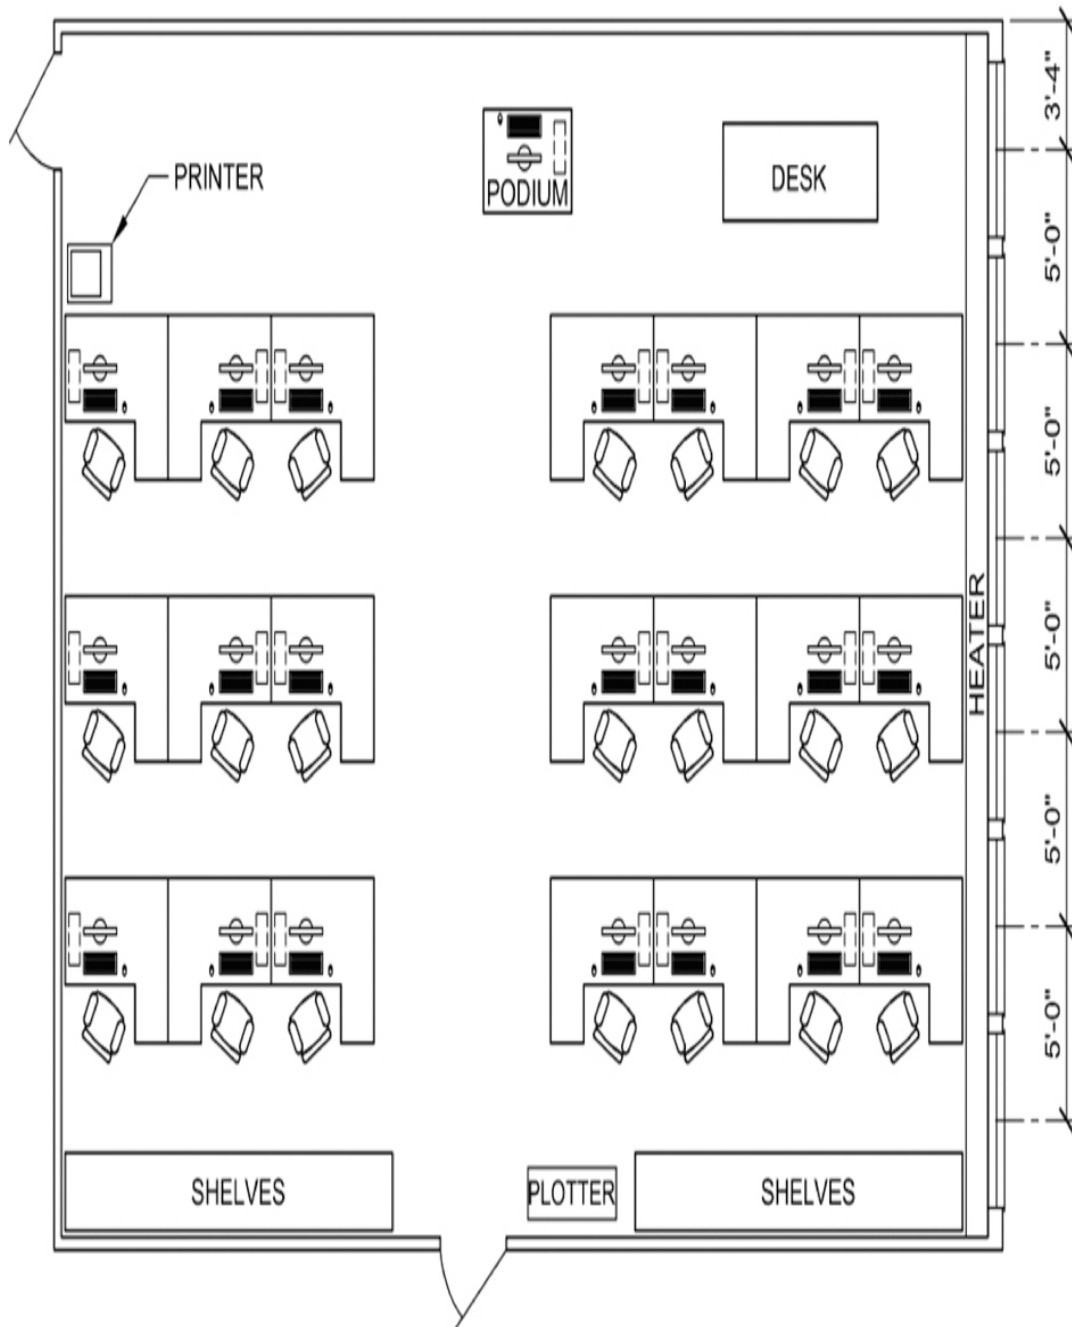

Figure 8-43
3. Locate the windows as shown in Figure 8-43. Trim the walls as necessary to allow for the window openings. Change the layout of the desks and chairs to reflect the updated plan.